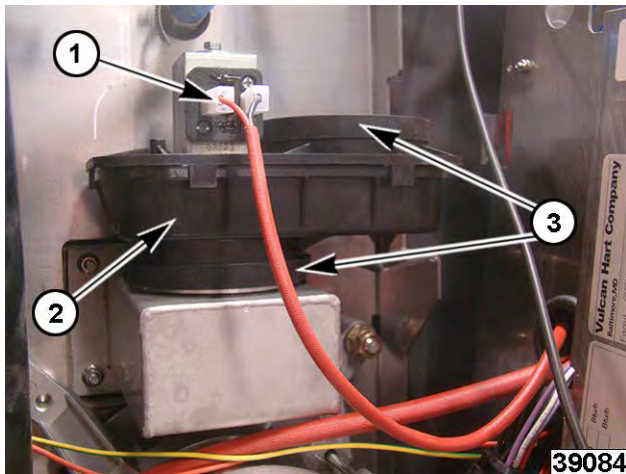

Fig. 65
2. Note and disconnect wires (1, Fig. 65).
3. Lift off motor (2, Fig. 65).
When installing a new vent motor, replace both seals (3, Fig. 65).